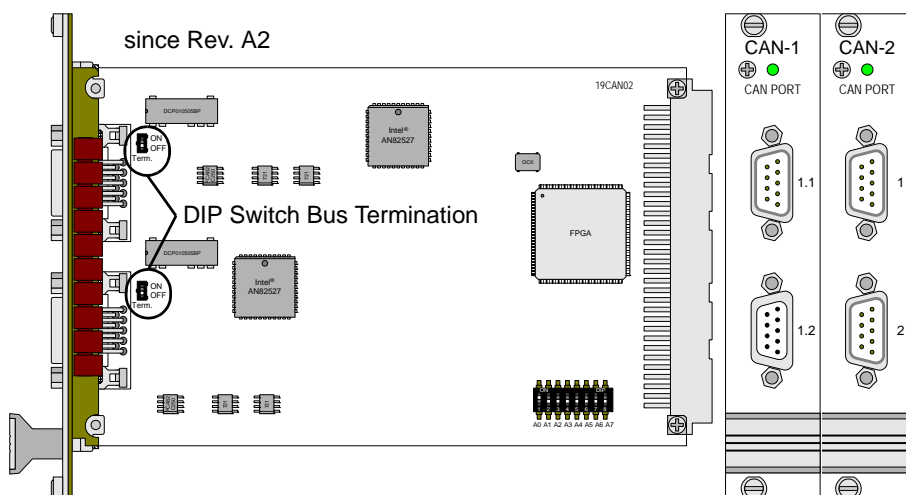

Fig. 274 – Pro-CAN-1/-2: PCB and front panels
If the CAN module functions as the physical termination of a high-speed CAN bus, it must be terminated with a 120Ω resistor (only the first or the last CAN node). If a termination is necessary, move the DIP switch (Rev. A2, see fig. 274) upward; when using the module revision A1 set the jumper to the left position (ON). CAN nodes, which are not positioned in an end-location, must not be terminated.